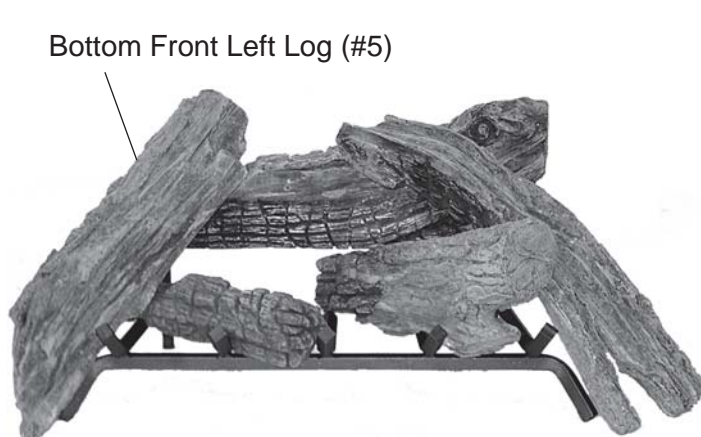

Figure 80 - Installing Bottom Front Left Log (#5)
6. Rest Bottom Left Log #5 on back log #1 and to the outside of the left grate prong. See *Figure 80*.